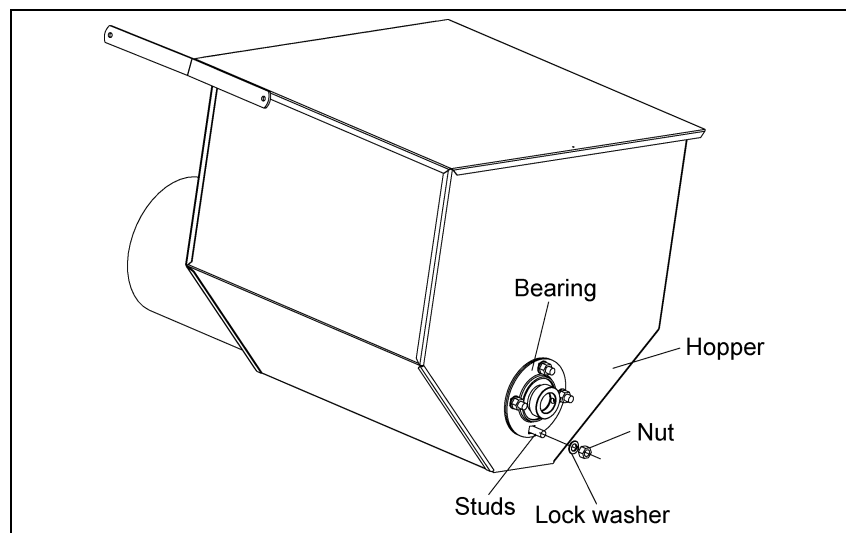

Figure 4B
- B. Next bolt the bearing with flangette to the studs on the hopper using the required lock washer and nut. (See Chart below and See Figure 4B.)